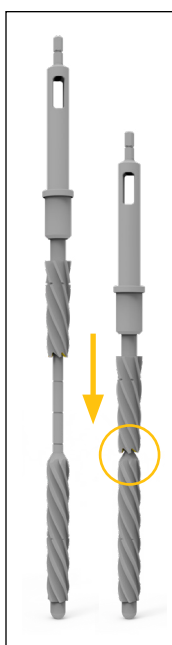

Figure 19
* If the final IM reamer is 16-18mm in diameter, an additional 25mm of reaming is required, resulting in a 200mm ream depth. This is required to avoid interference between the Revision Boss Reamer and the IM reamer cutting flutes (**Figure 19**).